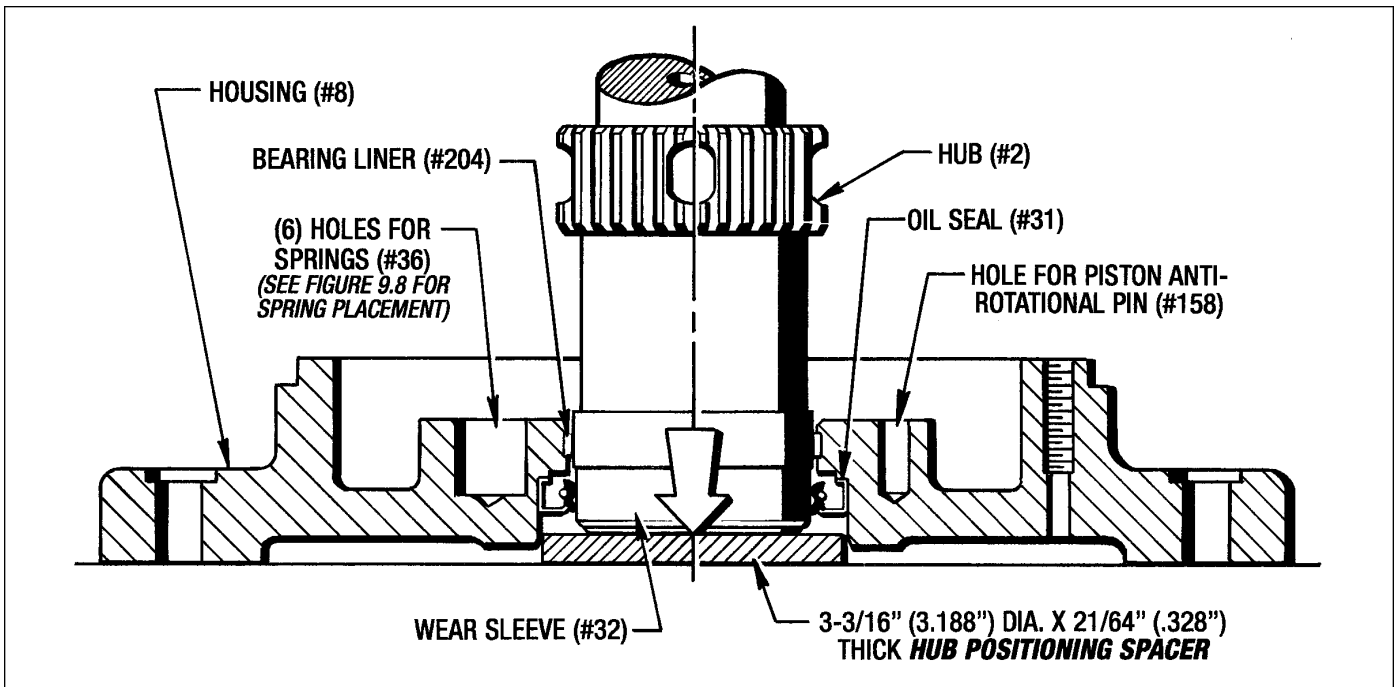

Figure 9.6 - Installing Hub (#2) into Housing (#8)
(See Figure 9.6)
To properly position the **Hub (#2)** when installing it into the **Housing (#8)** a simple spacer can be used. Make the **Hub Positioning Spacer 3-3/16" (3.188") Dia. x 21/64" (.328") Thick**. (See Figure 9.6)
1. Place the **Hub Positioning Spacer** on the work bench. Lay the Housing (#8) down over the Spacer as shown in Figure 9.6.
3. Insert the Hub (#2) into the Housing (#8) until it rests on the **Hub Positioning Spacer** as shown in Figure 9.6.